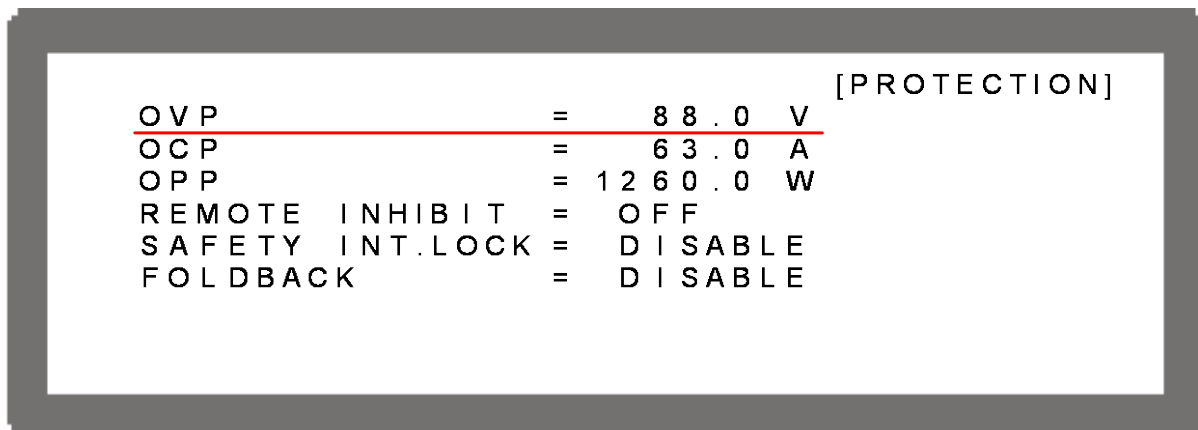

Figure 3-73
1. Use “”, “” keys to move the cursor to the column to be set as Figure 3-73 shows.